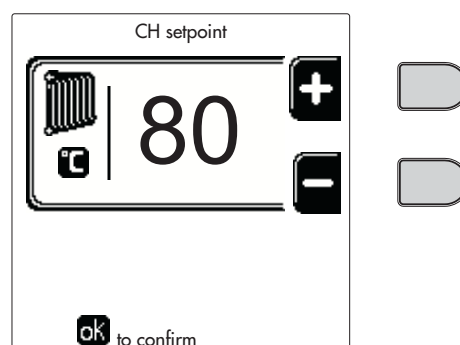
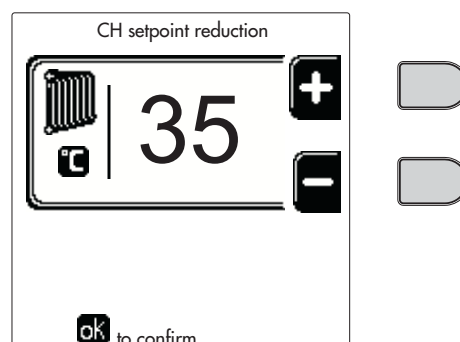
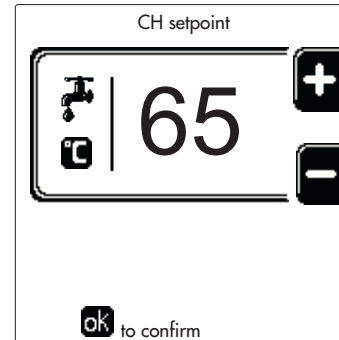
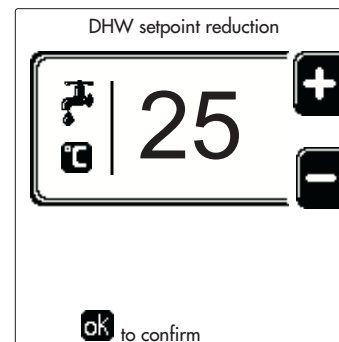

fig. 14
fig. 15
fig. 16
fig. 17
- **ON**. In case of a Heating/DHW request, the boiler works at the set Heating/DHW Adjustment Temperature (fig. 14/fig. 16).
- **■**. In case of a Heating/DHW request, the boiler works at the Reduced Adjustment Temperature. The Reduced temperature is obtained by subtracting the Reduction Adjustment Temperature (fig. 15/fig. 17) value from the set Heating/DHW Adjustment Temperature (fig. 14/fig. 16).